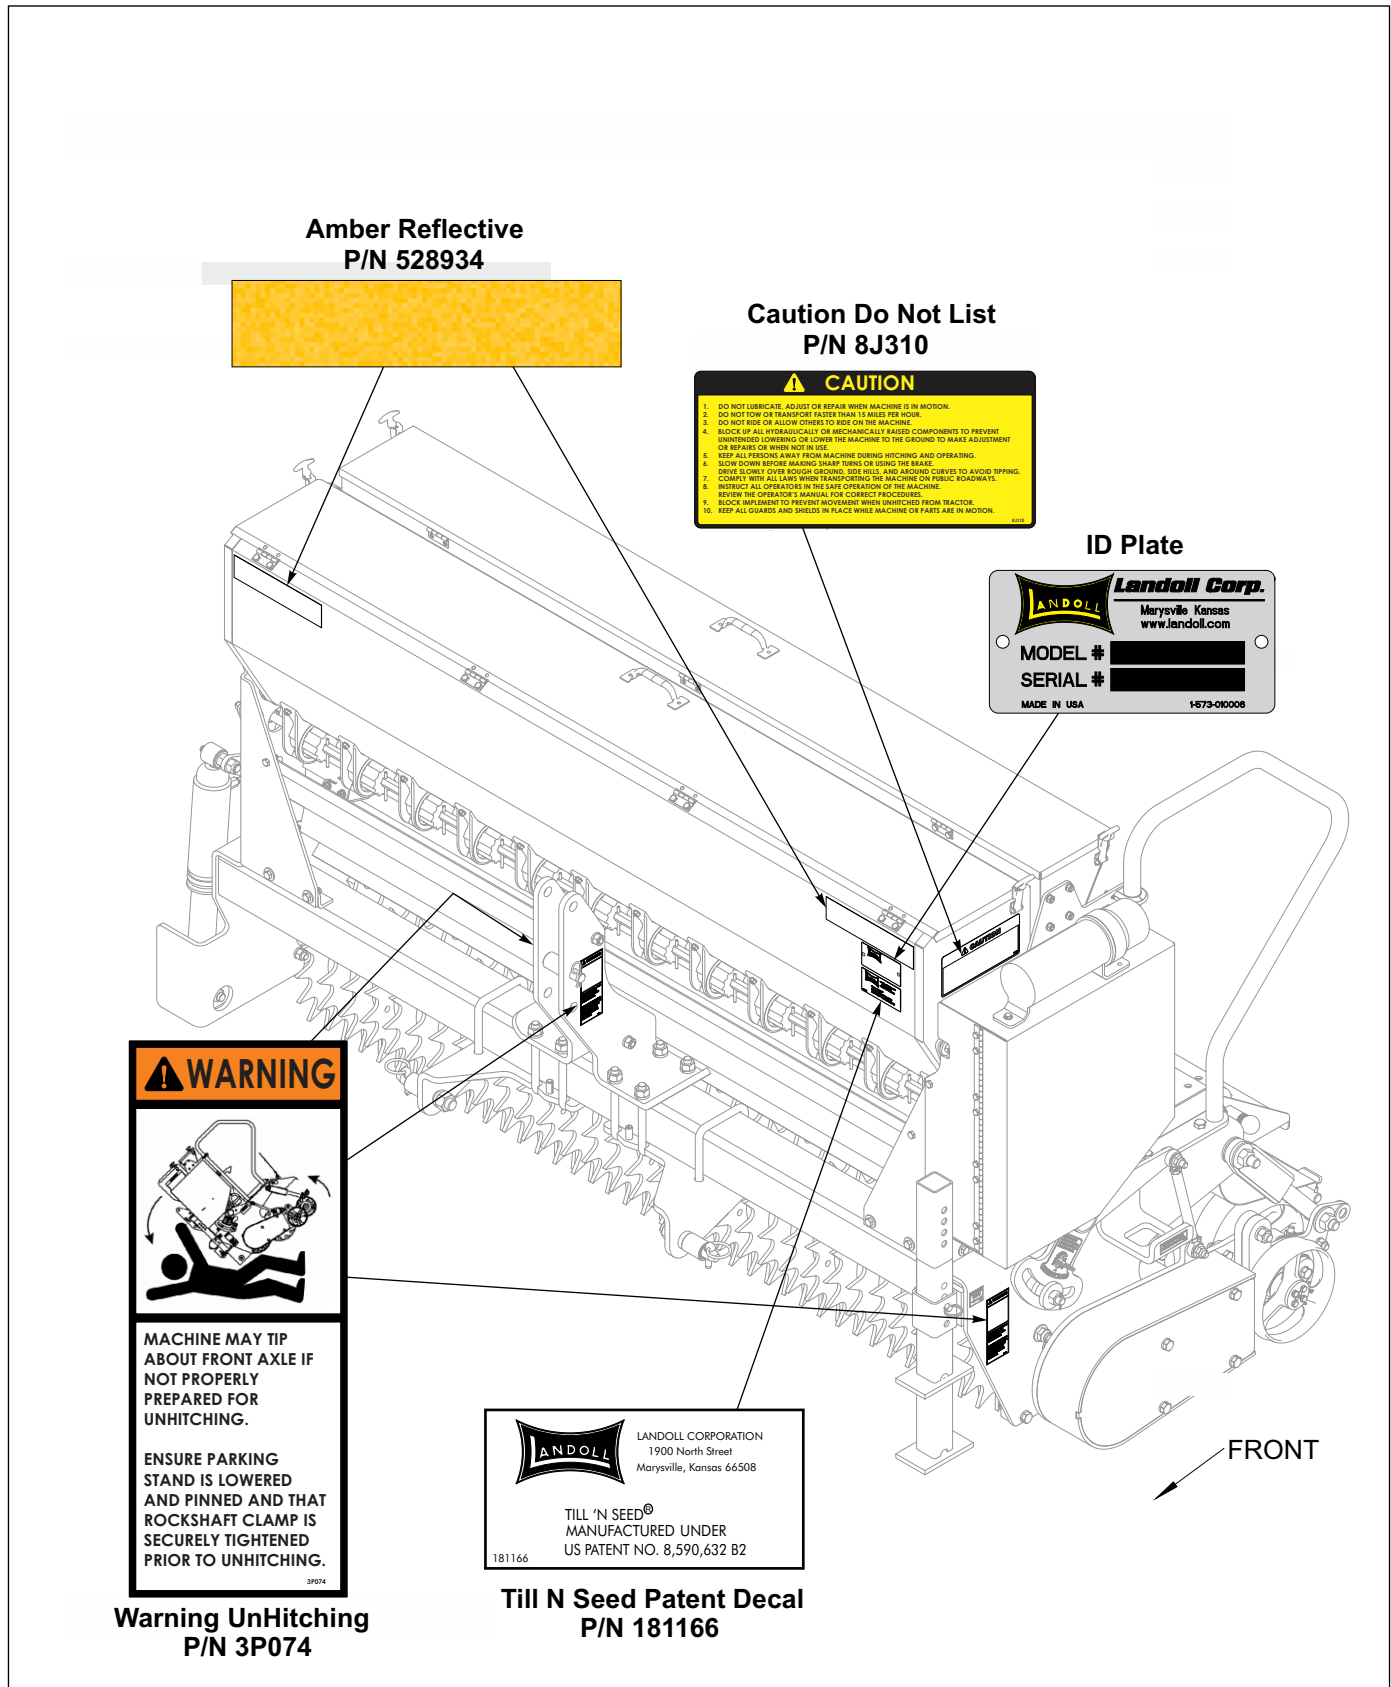

Figure 1-3: Decals (1 of 5)
- Examine safety decals and be sure you have the correct safety decals for the machine. See Safety Sign and Locations in Safety Section for decal locations, See Figures 1-3, 1-4, 1-5 and 1-6. Order replacement decals through your Brillion dealer.